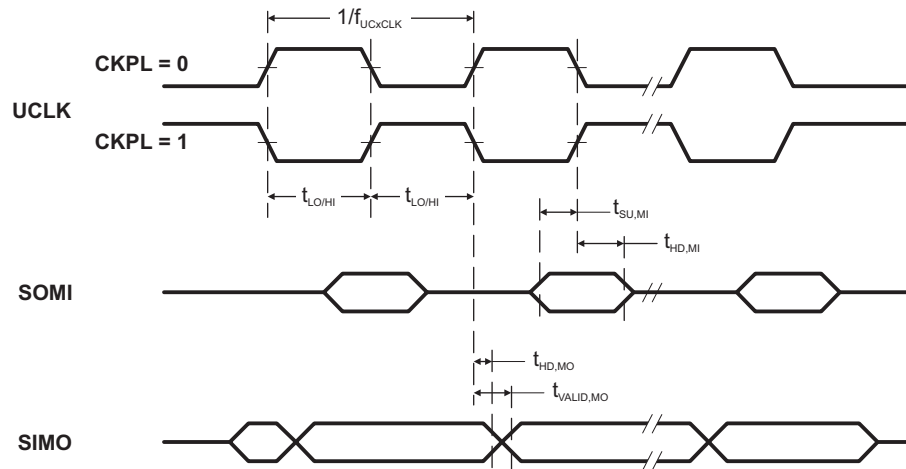
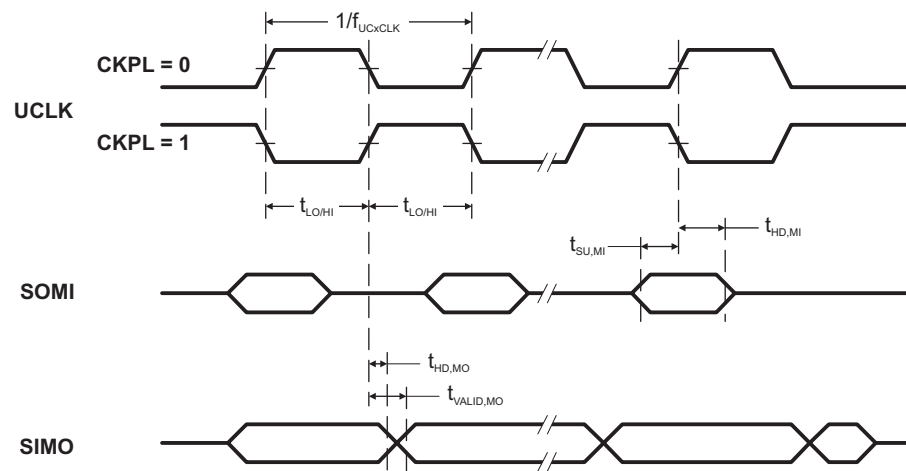

Figure 7. SPI Master Mode, CKPH = 0
Figure 8. SPI Master Mode, CKPH = 1
(see Note ⁽¹⁾, Figure 7 and Figure 8)
- (2) Specifies the time to drive the next valid data to the SIMO output after the output changing UCLK clock edge. Refer to the timing diagrams in Figure 7 and Figure 8.
- (3) Specifies how long data on the SIMO output is valid after the output changing UCLK clock edge. Negative values indicate that the data on the SIMO output can become invalid before the output changing clock edge observed on UCLK. Refer to the timing diagrams in Figure 7 and Figure 8.
(2) Specifies the time to drive the next valid data to the SOMI output after the output changing UCLK clock edge. Refer to the timing diagrams in Figure 7 and Figure 8.
(3) Specifies how long data on the SOMI output is valid after the output changing UCLK clock edge. Refer to the timing diagrams in Figure 7 and Figure 8.